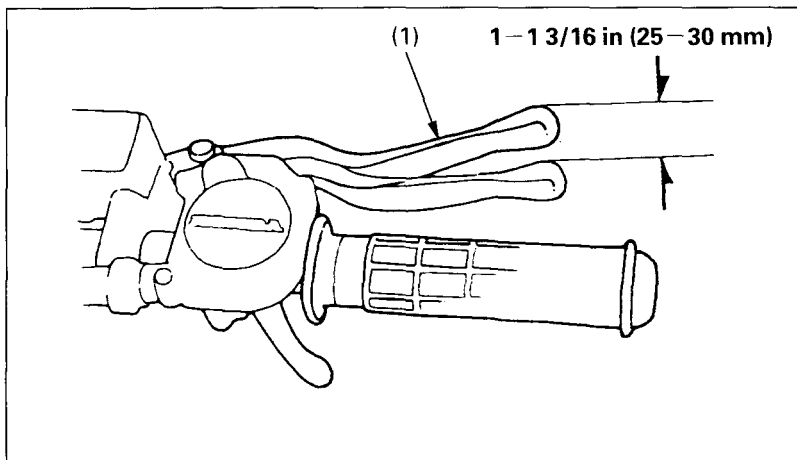

Fig. 4-22
1. Measure the distance the brake lever (Fig. 4-22) moves before the brakes start to take hold. Free play, measured at the tip of the front brake lever (1) should be: